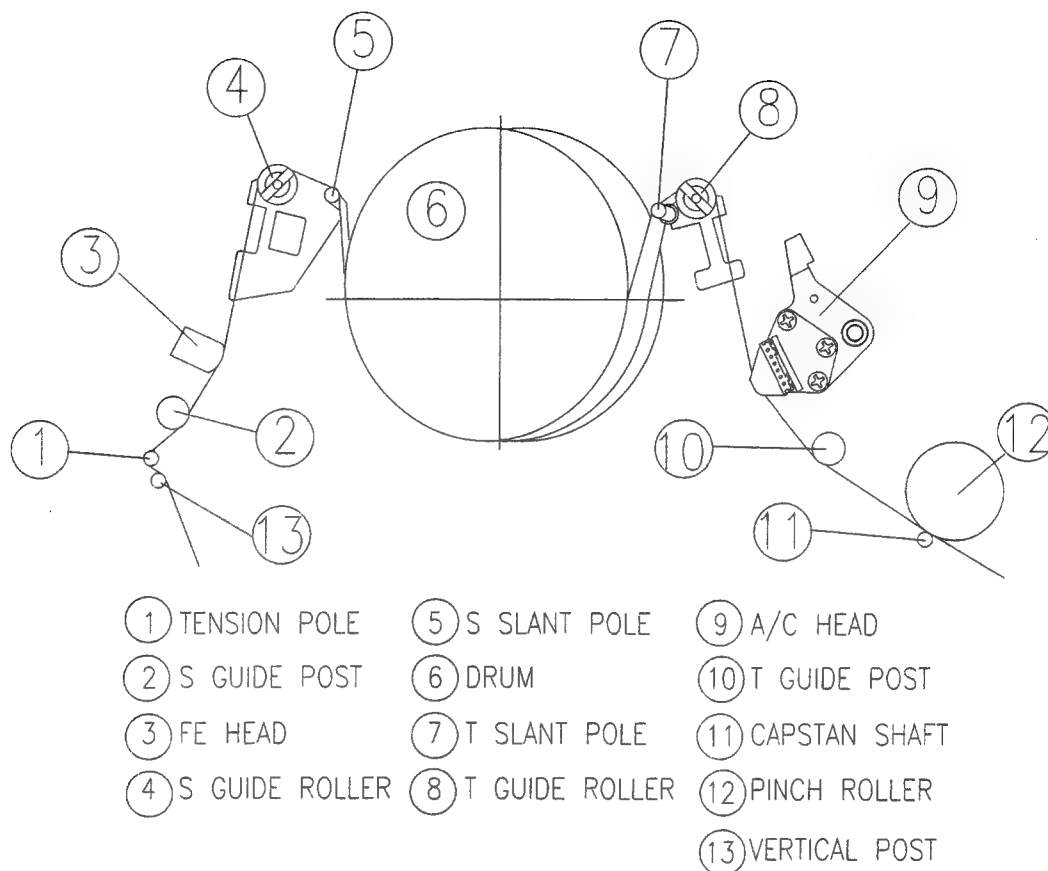

Fig. 5-1 THE SCHEMATIC DIAGRAM OF TAPE TRANSPORTING SYSTEM
When the parts as shown in Fig. 5-1 are replaced, the TAPE TRANSPORTING SYSTEM is changed. To prevent this, it is essential to know well thoroughly and observe the following INSTRUCTIONS.
- Play back a T-120 Tape and see the running condition of the TAPE at the lower flanges of the T GUIDE POST ASS'Y ⑪ in Fig. 5-1.